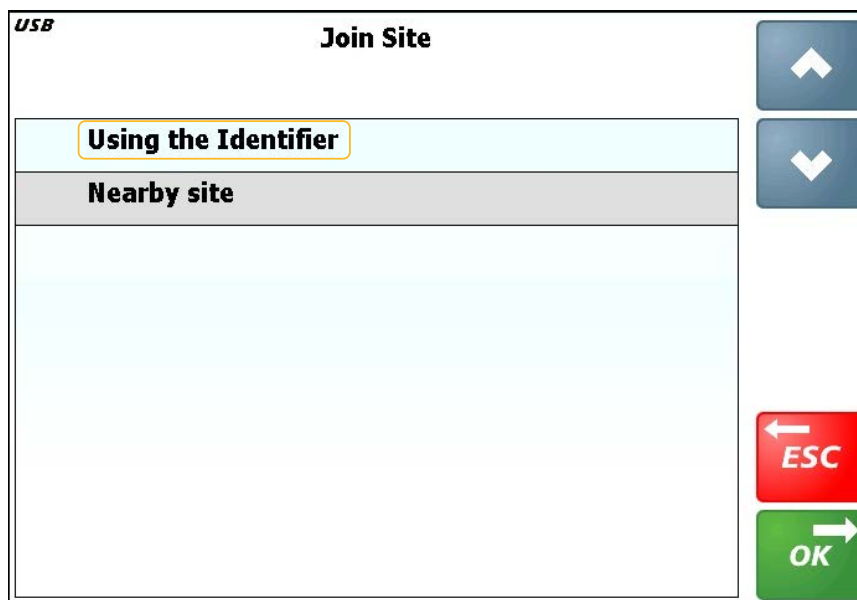

Figure 2-20: Load Weighing Display Join Site
4. Select **OK** on the load weighing display **Sitelink** screen to open the **Join Site** screen (Figure 2-20).